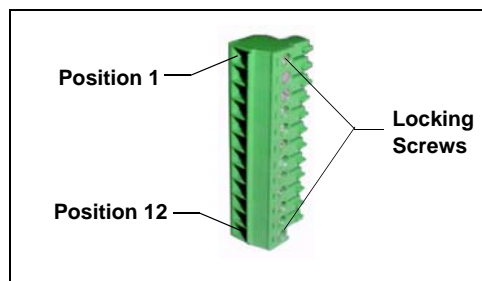

Figure B-109. 12-Position Connector Plug
6. Locate the 12-position connector plug (P/N 923686) in the ICS-2000 Ship Kit (P/N 064375) (see Figure B-109).